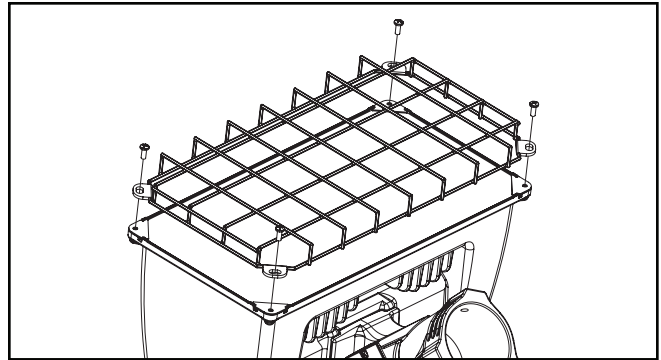

Figure 6.
### Wire Guard (Figure 6.)
1. Loosen and remove the existing (4) 10-24 Philips head screws on the face of the fixture and retain for future reference.
2. Align wire guard on top of lens clips matching the four existing holes. (Figure 6.)
3. Retighten (4) 10-24 Philips head screws from step 1 to the face of the fixture.